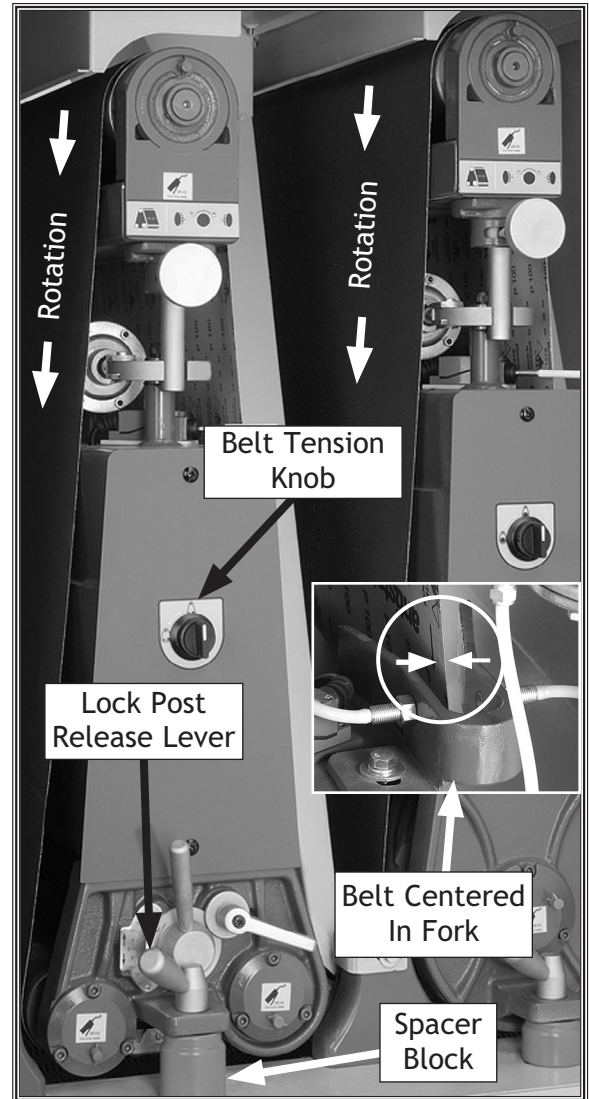

Figure 11. Components used when changing a sanding belt.
2. Remove the lock post release lever (Figure 11) by turning it counterclockwise $\frac{1}{2}$ turn and pulling it up and out of the mounting hole.
3. Remove the spacer block (Figure 11).
4. Making sure the rotation arrows on the sanding belt point the same direction as those shown in Figure 11, install the sanding belt by starting first on the upper roller and then the lower roller.